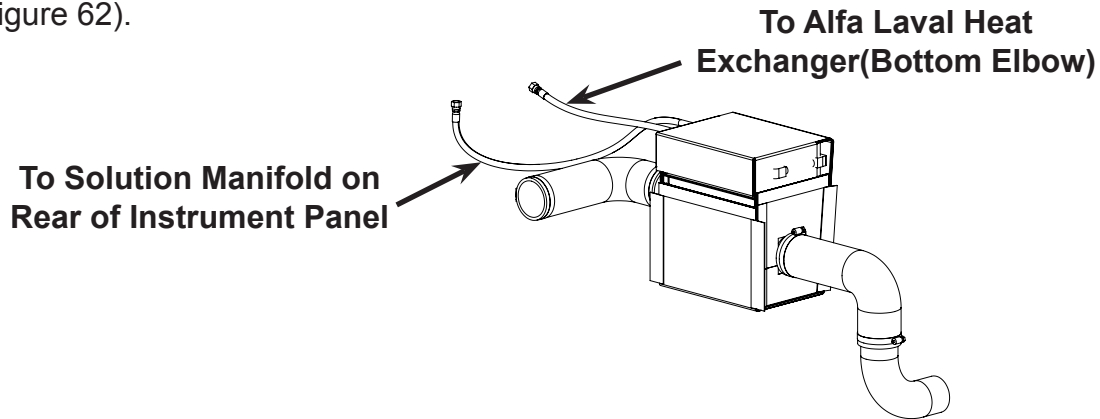

Figure 62. Connect 5/16" Teflon Hoses to Salsa Elbows
6. Connect two 5/16" Teflon® hoses with JIC ends to the elbows on the Salsa (Figure 62).
8. The other 5/16" hose connected to the outermost elbow on the Salsa will be connected to the pressure regulator on the rear of the instrument panel (Figure 62).